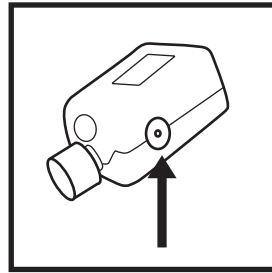

Fig. 1
2. Activate COMPASS by depressing power button until display reads "00" (refer to Fig. 1).